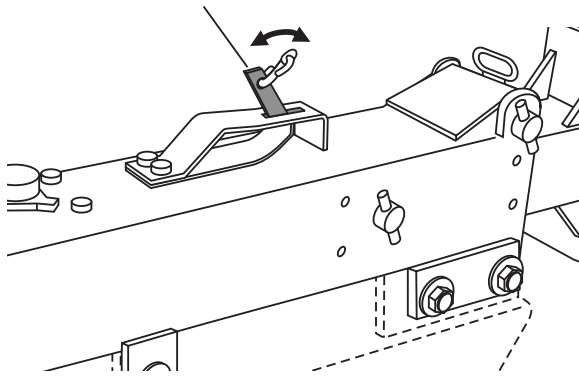

Figure 39. Trailer Emergency Brake Lever
8. Test the brakes by pulling the emergency stop lever (Figure 39) forward until it locks into its second notch position. Attempt to rotate the wheels in a forward direction.